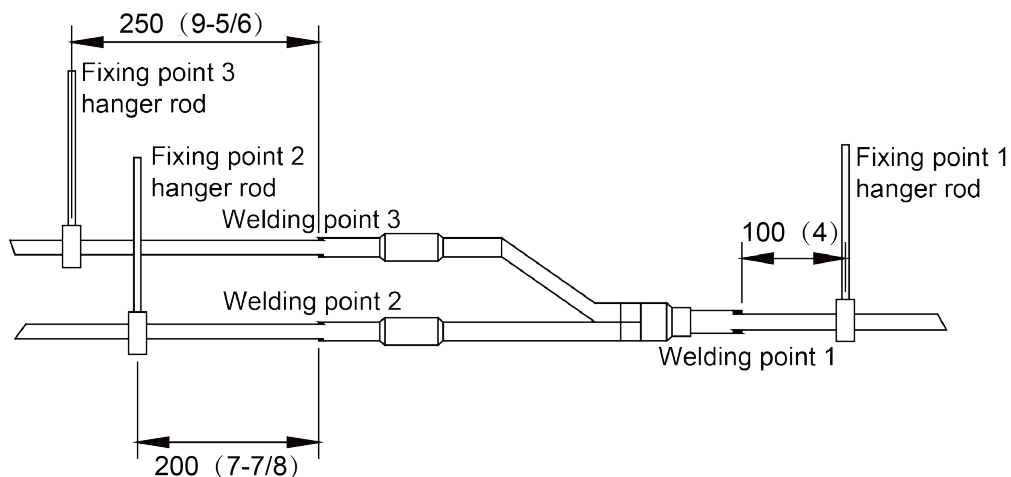

Fig.4.3.5
- (3) Three fixing point for both horizontal and vertical installation of the Y-type manifold should be applied. Show as Fig.4.3.5.